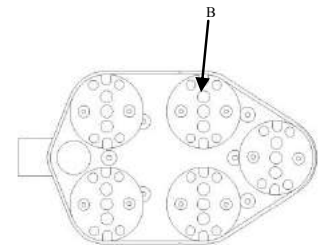

Fig.2
2	Tilt the equipment on its side (Fig.2). Choose the appropriate tooling holder attachment – 3" magnetic Plug 'N Go plate (B) for Metal bond tools or 3" Foam/Velcro Adapter plate for polishing resins. Insert the 2 shear pins into the rubber grommets. Then attach the corresponding tooling to the plate.